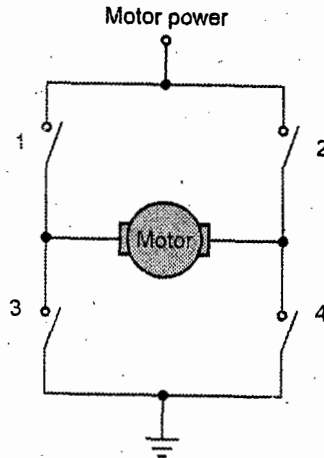

Fig. Q.22.4 H-bridge control
- The average DC voltage value for 0 % duty cycle is zero; with 25 % duty cycle the average value is 1.25 V (25 % of 5 V). With 50 % duty cycle the average value is 2.5 V and if the duty cycle is 75 %, the average voltage is 3.75 V and so on. The maximum duty cycle can be 100 %, which is equivalent to a DC waveform. Thus by varying the pulse-width, we can vary the average voltage across a DC motor and hence its speed. The speed of DC motor can be controlled using variety of methods as shown in Fig. Q.22.2 to Fig. Q.22.4, out of which H-bridge is mostly preferred.
- In this application a fairly complex control application is used which allows forward and reverse, as well as speed control, of a dc motor using the full H-bridge circuit as shown in Fig. Q.22.4.